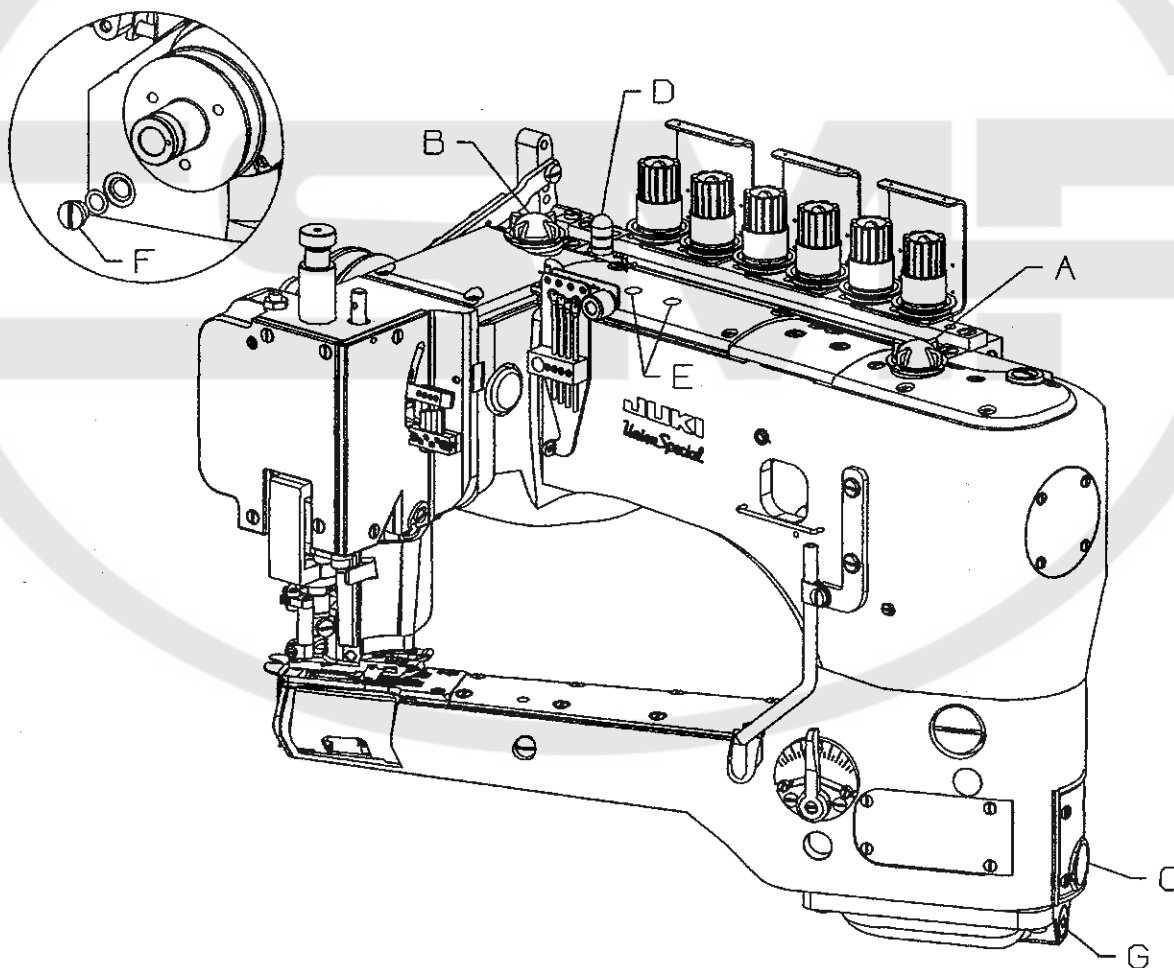

FIG. 1
Referring to Fig. 1, fill the machine at (A) and (B). Oil capacity of class 36200 is 2.5 ounces in the bottom reservoir and 2.5 ounces in the top reservoir. Use a straight mineral oil, Saybolt viscosity of 90 to 125 seconds at 100° Fahrenheit. The oil level is checked at gauges (C) and (D). Maintain oil level between the red lines of these gauges.
Remove screw 22733B (F, Fig. 1 inset) to drain oil from the top reservoir. To drain oil from bottom reservoir remove magnetic screw 22571E (G).